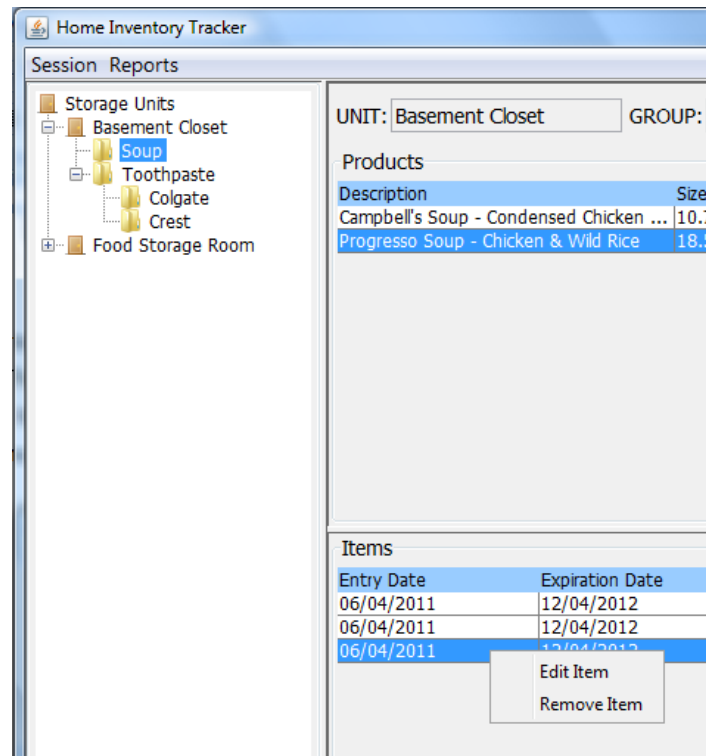

Figure 6 - Item Context Menu
- 5) The Item Context Menu (Figure 6) is accessed by selecting and then right-clicking an item in the Item Table. This menu provides the following operations: